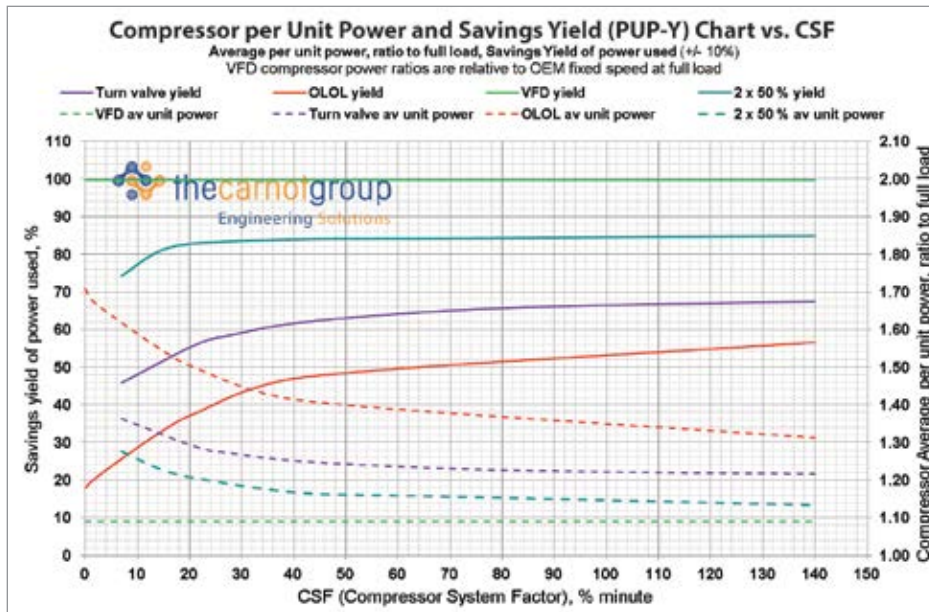

Figure 4: Compressor PUP-Y Chart
- It allows the development of the Per Unit Power and savings Yield (PUP-Y) chart (Figure 4 shown below).